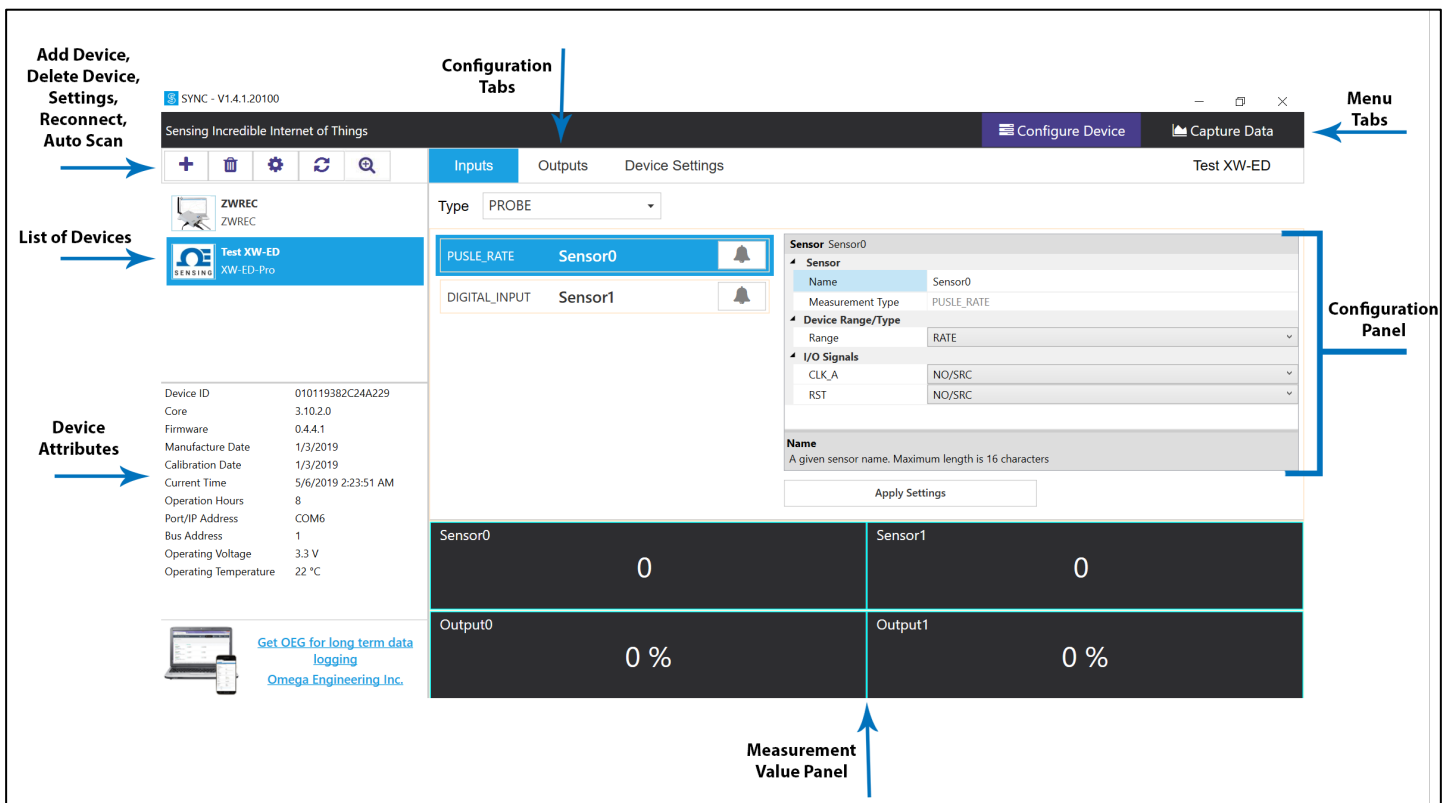

Figure 4
The blank Configure Device interface is the first view you see after SYNC is launched. Once a device is connected, you will see an interface like the one displayed in **Figure 4**.
**Note:** The **Configure Device** interface may look differently than the one displayed in **Figure 4** depending on the product that is connected.
The **Device Attributes** list will appear when you click on a device from the Device List section (**Figure 4**).
Clicking the Add Device icon  (**Figure 4**) will lead to a wizard that guides you through the process of adding a device to SYNC.
The device can be deleted by clicking the Delete icon  (**Figure 4**).